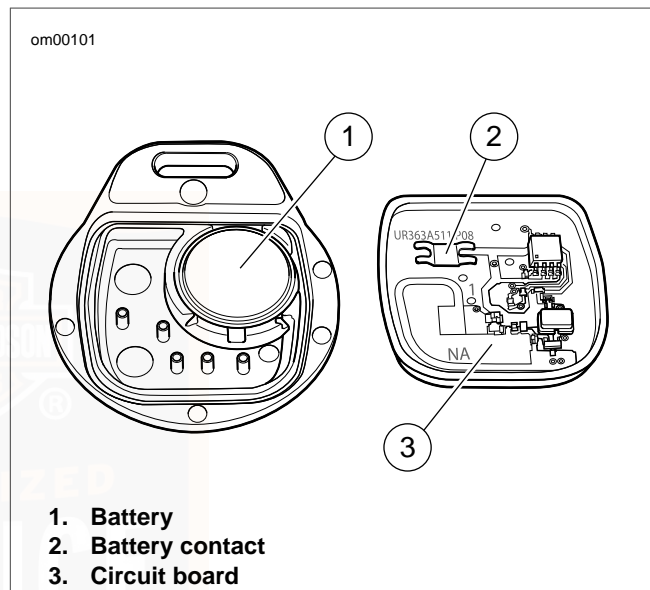

Figure 27. Key Fob Battery Replacement
2. See Figure 27. Remove the old battery and discard.